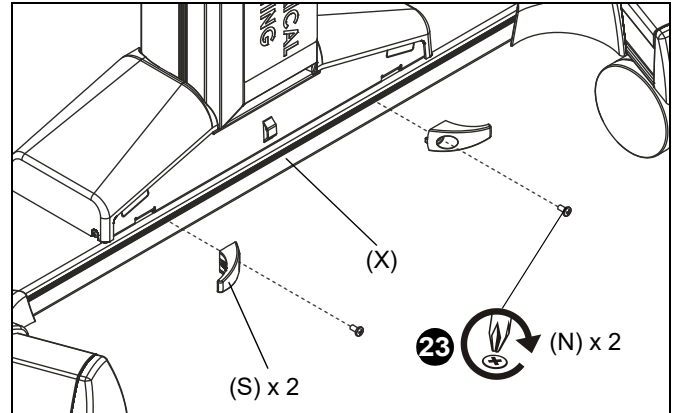

Figure 14
23. Use two 1/4-20 x 1/2" Phillips pan machine screws (Q) to attach two cable hooks (S) to cross brace (X). (See Figure 14)